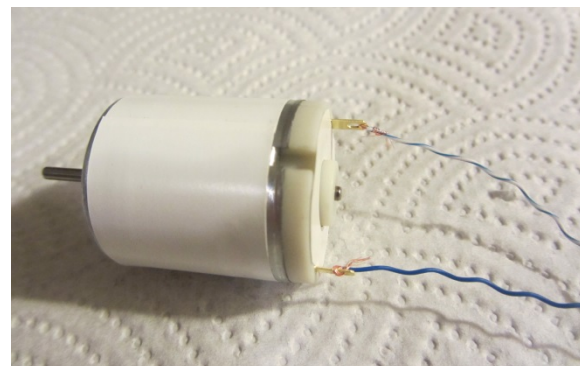

Figure 2.3-6: Tether Cable Wires Soldered Onto a Thruster Motor's Terminals
7. Select a pair of wires and one of the taped motors. Twist the solid color wire through the positive terminal marked earlier. The striped wire attaches to the other terminal. Bend the stripped end of each wire through the terminals, and squeeze the wire tightly onto it as shown in Figure 2.3-6.